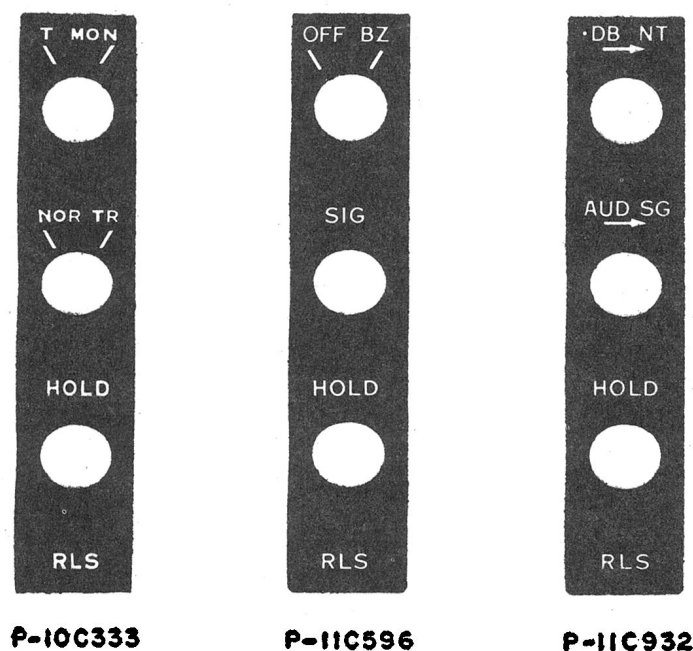

Fig. 19 — Common Key Designation Strips
9.02 The P-10C333 designation strip is for use with all common keys except as follows. When 4E faceplates are used, a P-11C932 designation strip shall be installed. The P-11C596 is for use only with 756 PBX installations. (Fig. 19).